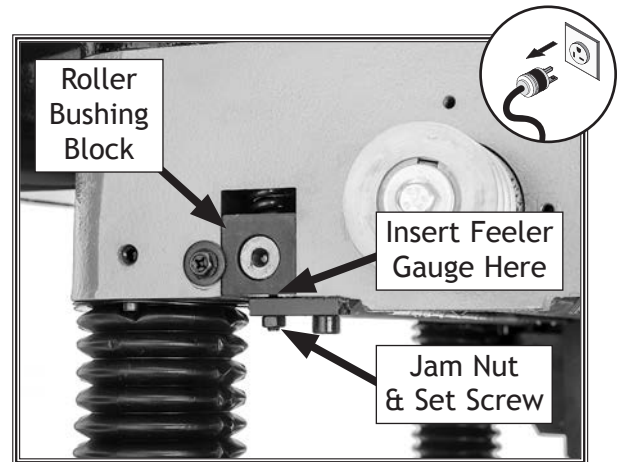

Figure 54. Example of feeler gauge location for adjusting infeed roller height when using wood blocks (one of two locations shown).
10. Loosen jam nuts and set screws on each side of infeed roller (see **Figure 54**).
11. Using a feeler gauge, adjust set screw so it is 0.040" from roller bushing block (see **Figure 54**), then tighten jam nut. Repeat on other side of infeed roller.